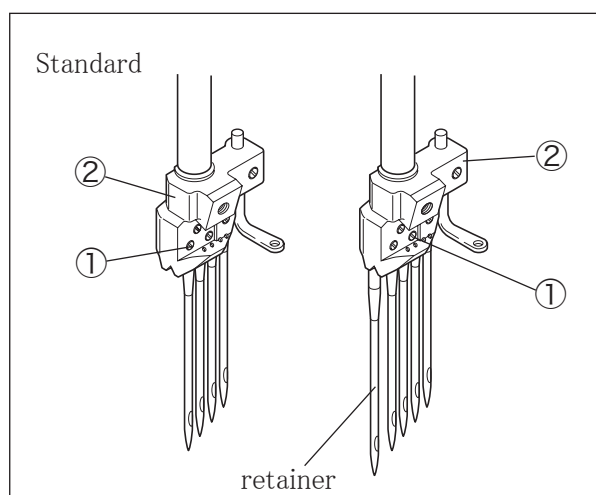
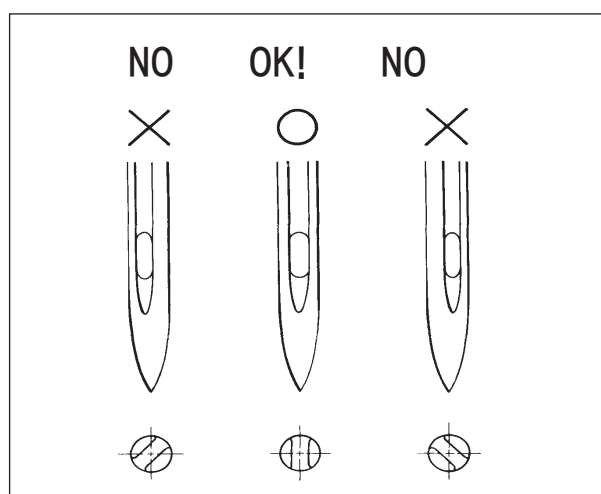

Fig. 5-4
Fig. 5-5
- (1) Loosen the screws ① with a screwdriver. (Fig. 5-4)
- (2) Remove an old needle with a pair of tweezers.
- (3) Insert a new needle into the needle clamp ② as far as it will go with facing its scarf to the right back. (Figs. 5-5 and 5-6)
- (4) Tighten the screws ① with a screwdriver.